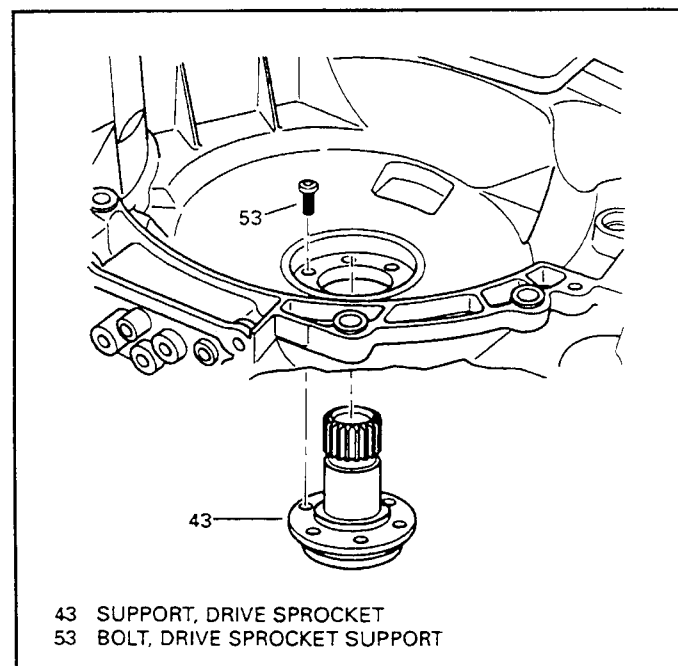

Figure 87
9. Install the drive sprocket support into the bell housing in the case (See Figure 87).
10. Install the six drive sprocket support retaining bolts (53) into the drive sprocket support as shown in Figure 87.
11. Hand start all of the bolts, and then torque to 9 ft.lb. (See Figure 87).